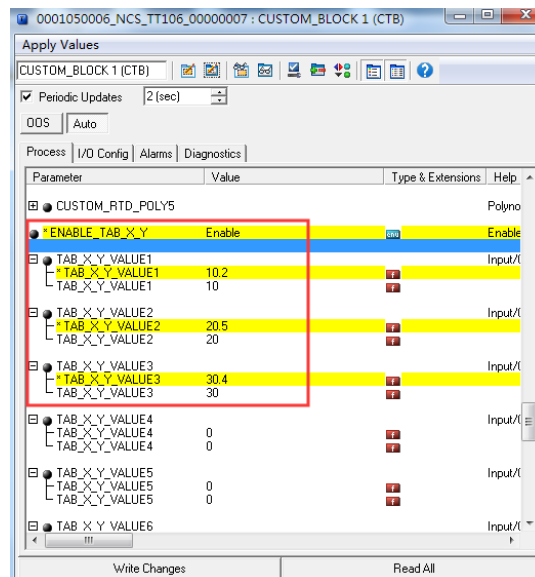

Figure 3.11 Acquisition parameter configuration
(2) Input the standard signal through the standard source, and open the transducer block TEMP_SENSOR1 in the configuration software, read the value of the parameter PRIMARY_VALUE, and write the value to the first place in the TAB_X_Y_VALUE1, TAB_X_Y_VALUE2, and TAB_X_Y_VALUE3 arrays. For example, write the read 10.2, 20.5, 30.4 in the array, and set the parameter ENABLE_TAB_X_Y to "Enable" as shown in Figure 3.11. This is the end of calibration work.